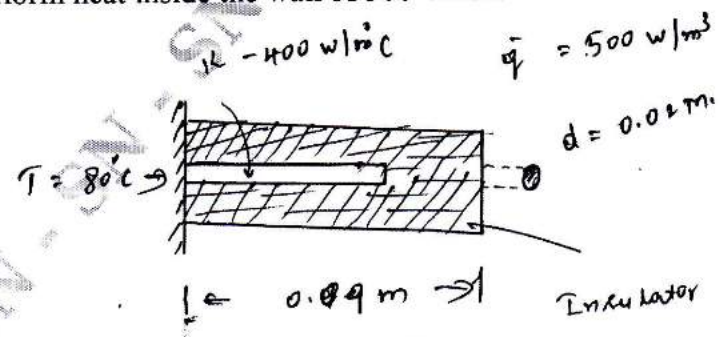

Fig. Q10 (b) (10 Marks)
b. Determine the temperature distribution in a one dimensional fin shown in fig.Q10 (b). There is a generation uniform heat inside the wall of 500 W/m^3 .